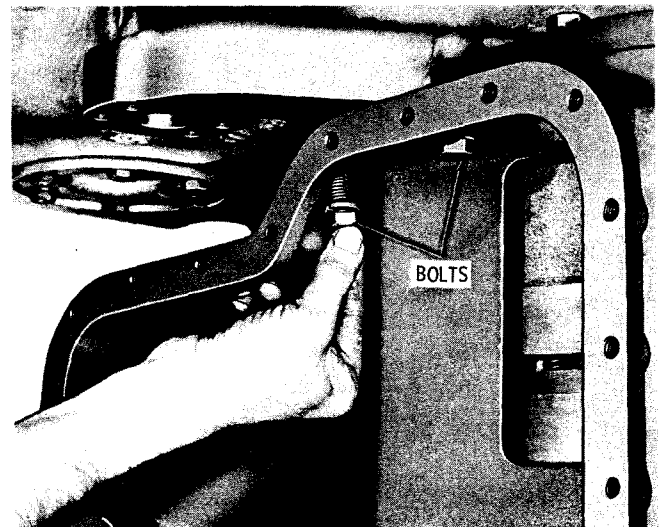

Fig. 7-72. Installing converter housing bolts at bottom of transmission (CT, CLT, VCLT) S1716
(11) Install nineteen 1/2-13 x 1 1/2-inch bolts and lockwashers into the torque converter housing. (Two bolts and lockwashers are located in the bottom of the transmission (fig. 7-72).) Tighten the bolts to 67 to 80 pound feet torque.